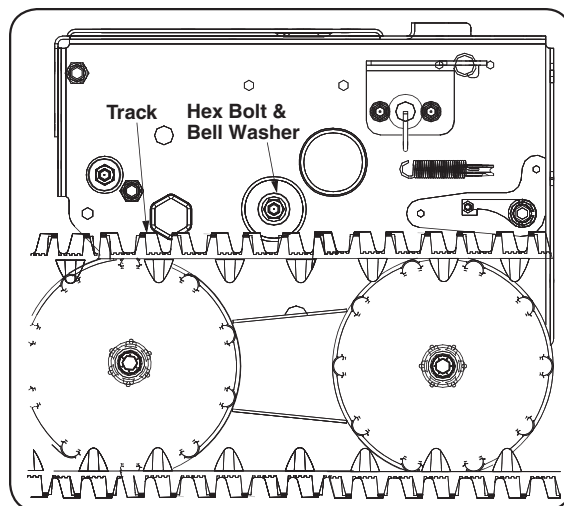

Figure 6-9
3. Using a 3/4" wrench to hold the gear shaft, remove the hex bolt and cupped washer on the left end of gear shaft. See Figures 6-9 and 6-10.